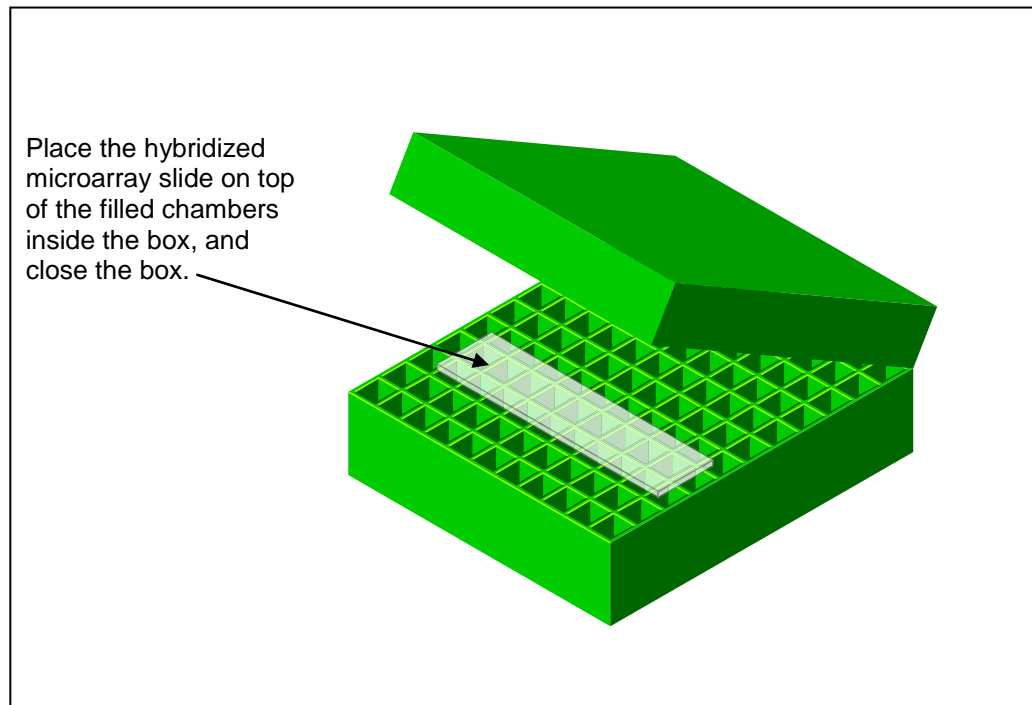

Figure 2: Step 5A → Glass Slide inside Chamber Box²
- 8) Place the entire labeled target plus the microarray set-up into a closable, chambered box* that is humidified by 2 X SSC buffer in the 37°C oven for 14 to 16 hours. A sealed chamber ensures that the appropriate humidity level is maintained during incubation. (See Figure 2).
Figure 2, below, provides an illustration of Step 5A, where the hybridization protocol is completed using the glass cover slide method, and specifically, the Human miRNA OneArray[®] Microarray is placed into the chambered box.